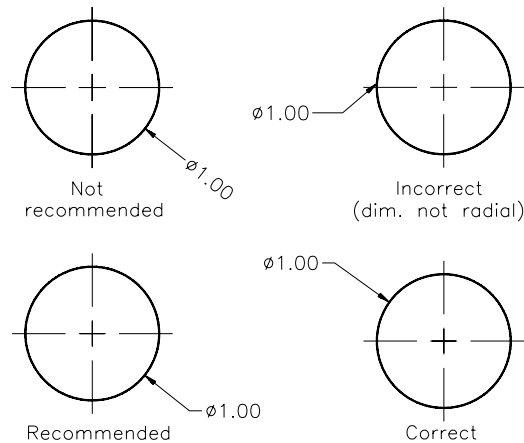

Figure 22-43 *Dimensioning a circle*
18. When dimensioning an arc or a circle, the dimension line (leader) must be radial. Also, you should place the dimension text horizontally (Figure 22-43).